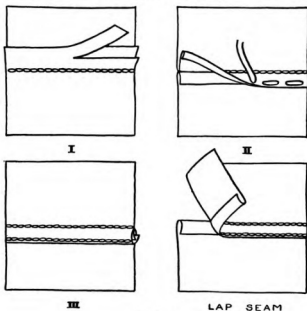

FIGURE 77
*Flat Fell* (Figure 77). — This is a seam finished with a lap and two lines of stitching on the right side. It is used where durability is desired.